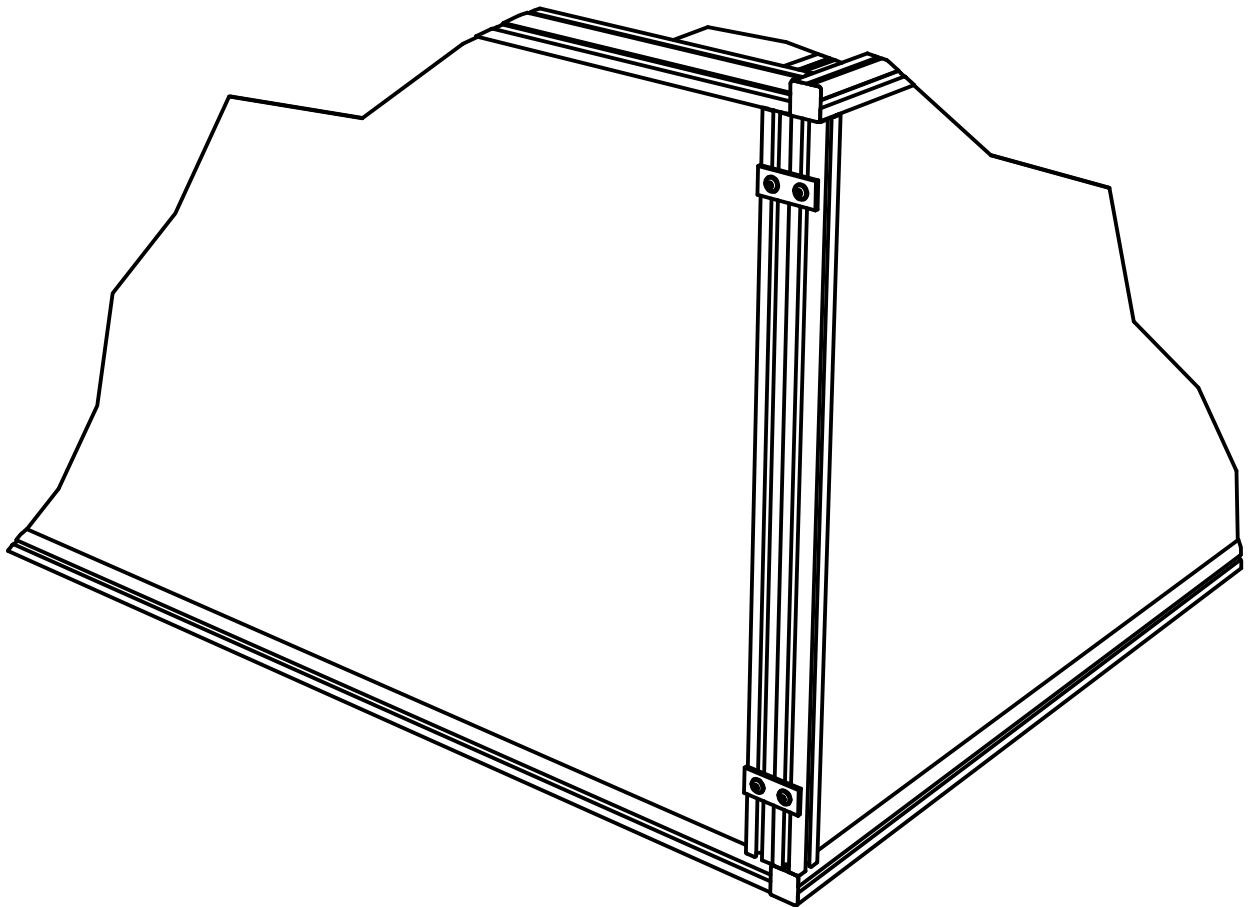

Figure 2
- Place end caps ends on the aluminum extrusion for a finished off look on the outside corners (see Figure 2 on next page)
- Place end caps ends of the aluminum extrusion for a finished off look on the outside corners (see Figure 2 below)